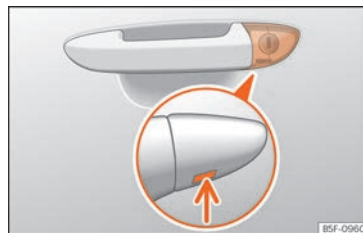

Fig. 5 Driver door lever: hidden lock cylinder.
- Insert the key shaft into the lower opening in the cover on the driver door handle » **Fig. 5** (arrow) then remove the cover upwards.